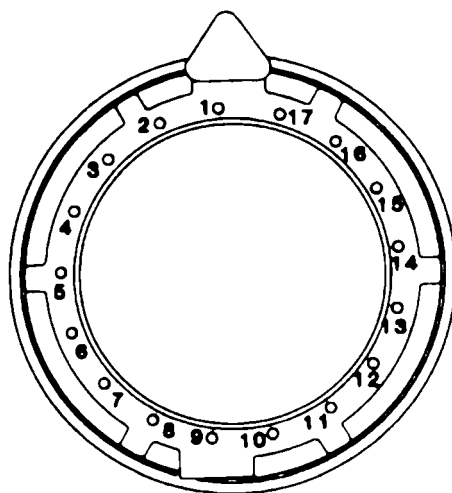

Figure 8-7. Compressor Inlet Housing Bolt Patter
(4) On front of compressor inlet housing (3) remove lockwire, nuts (4), and washers (5) that hold bolts (6) in the 2, 3, 5, 6, 8, 9, 11, 12, 14, 15, and 17 positions. (See Figure 8-7.) Remove bolts (6, Figure 8-6) from turbine nozzle (1).
(7) On front of compressor inlet housing (3), remove nut (10) and washers (11 and 12) that secure bolts in the 1, 4, 7, 10, 13, and 16 positions (see Figure 8-7) Remove bolts (13, Figure 8-6) from diffuser (2).